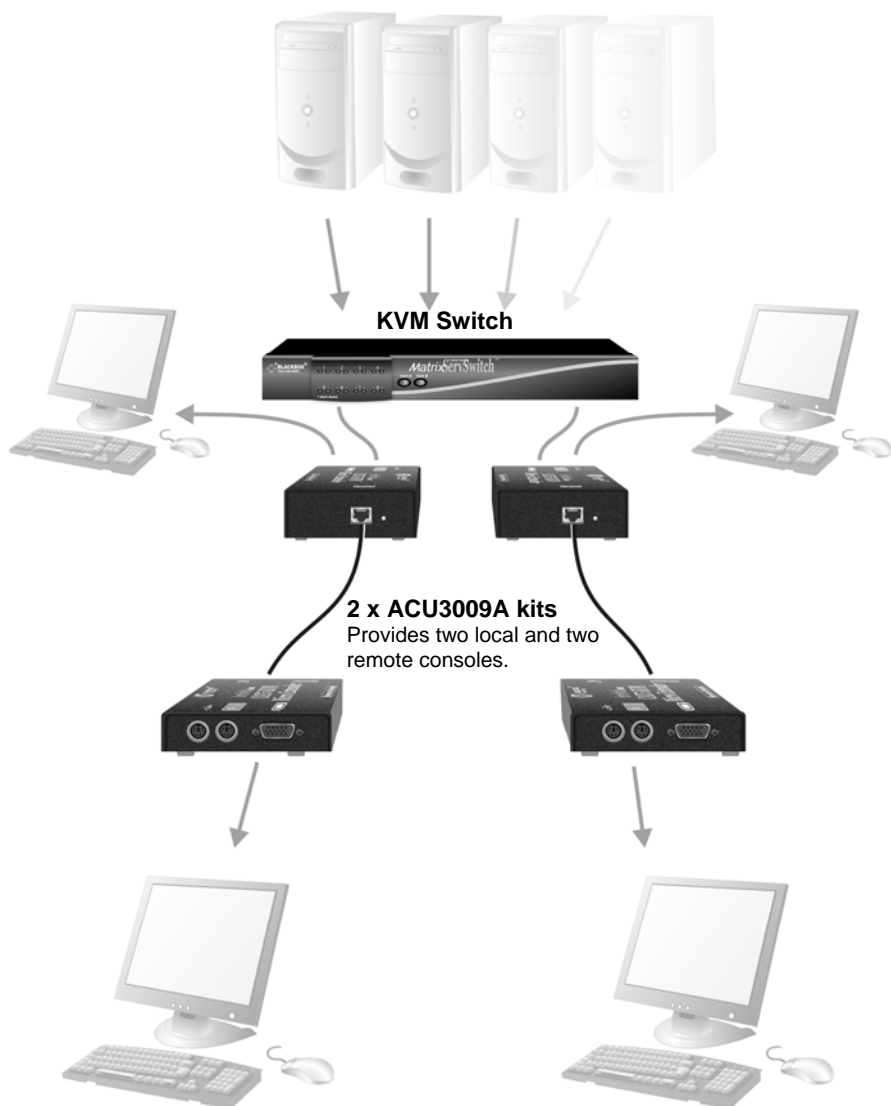

Figure 11 **Extender integration with KVM matrix**
- Integration of two ACU3009A kits with KVM matrix (Figure 11).